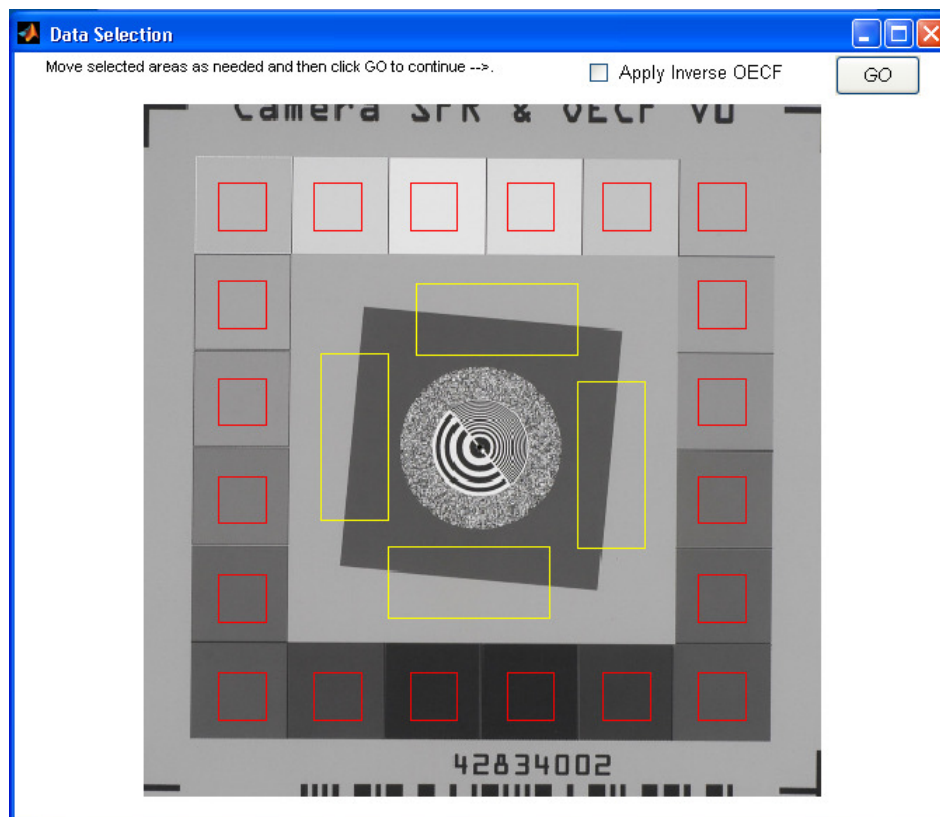

Figure 5: ROI selection
3. This is followed by presentation of a window, as shown in Fig. 5, which allows adjustment of the sub-target ROIs. You can move these by dragging each one using the computer mouse. When the locations appear correct, select the **GO** button and the analysis will start.